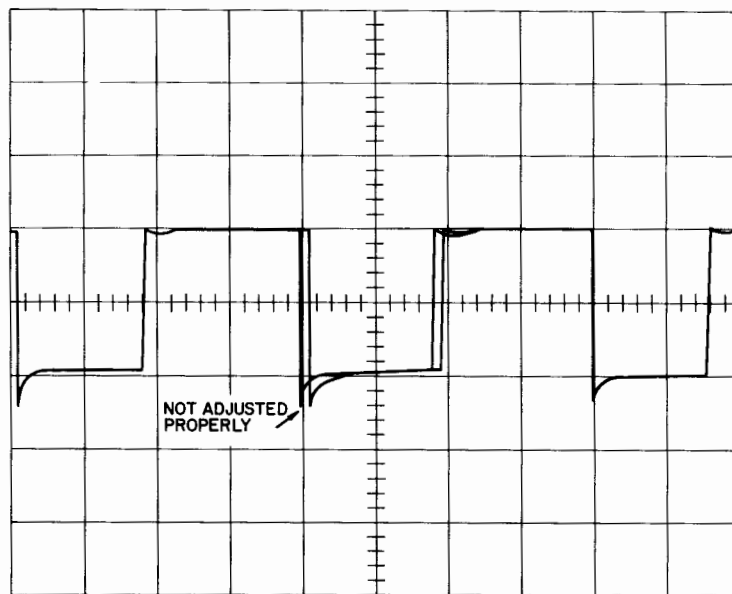

Figure 3-23. Read Amplifier Balance
6. Read track 66. Adjust R17 so the center pulse is converged to one pulse (see Figure 3-23).